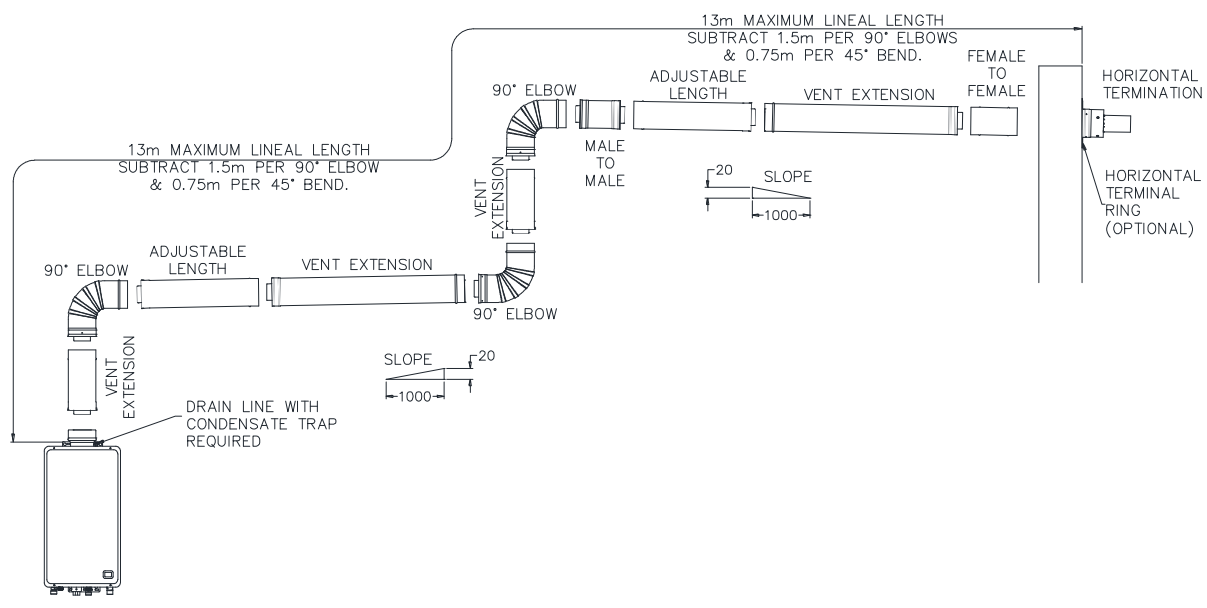

Figure 20- Typical Installation Horizontal Terminal with Multiple Vertical and Horizontal Sections
- Where there is a horizontal run of flue between two bends and the bend closest to the flue terminal is orientated upward. Refer to Figure 20- Typical Installation Horizontal Terminal with Multiple Vertical and Horizontal Sections on page 48. This horizontal run of flue must have a gradient upward to the flue terminal. Condensate will drain back toward the water heater.